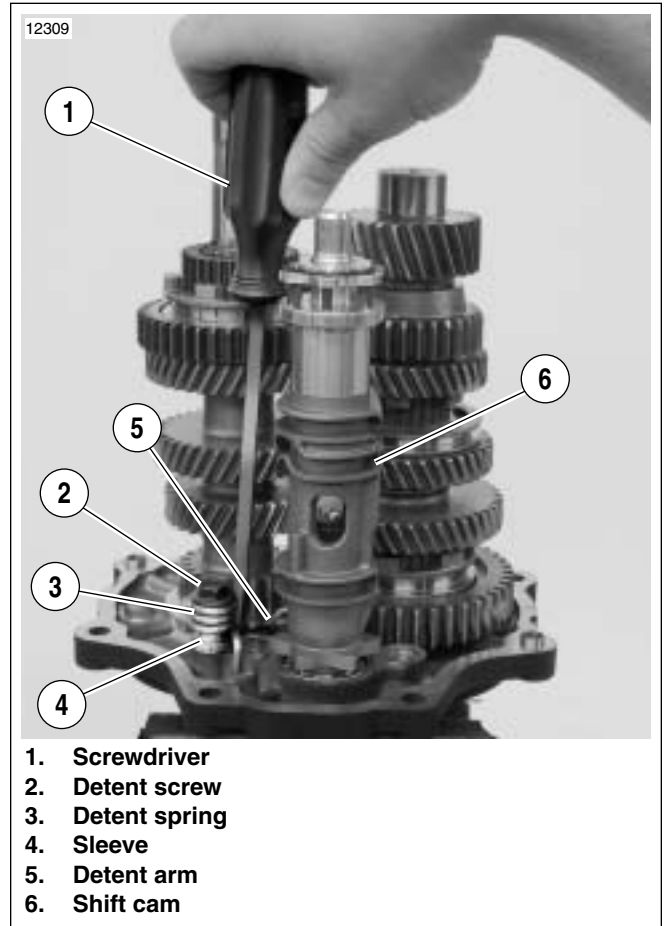

**Figure 9. Transmission Gear Assembly with Shift Forks and Shift Cam**
20. See Figure 9. With access door on end (shafts pointing upward), remove shift fork shafts (2) using screw extractor—not flute design (1). Shafts have slight interference fit. Shafts can be reused; do not damage end of shaft. Do not remove shift forks from shift fork shafts. Remove each shaft and shift fork(s) as a unit.
21. Remove two screws (4) and lock plate (5). Discard screws.
4. See Figure 9. Install lock plate (5) and **new** lock plate screws (4) (Part No. 35259-06 from recall parts kit) into transmission bearing housing. Tighten screws to 50-70 **in-lbs** (5.7-7.9 Nm).